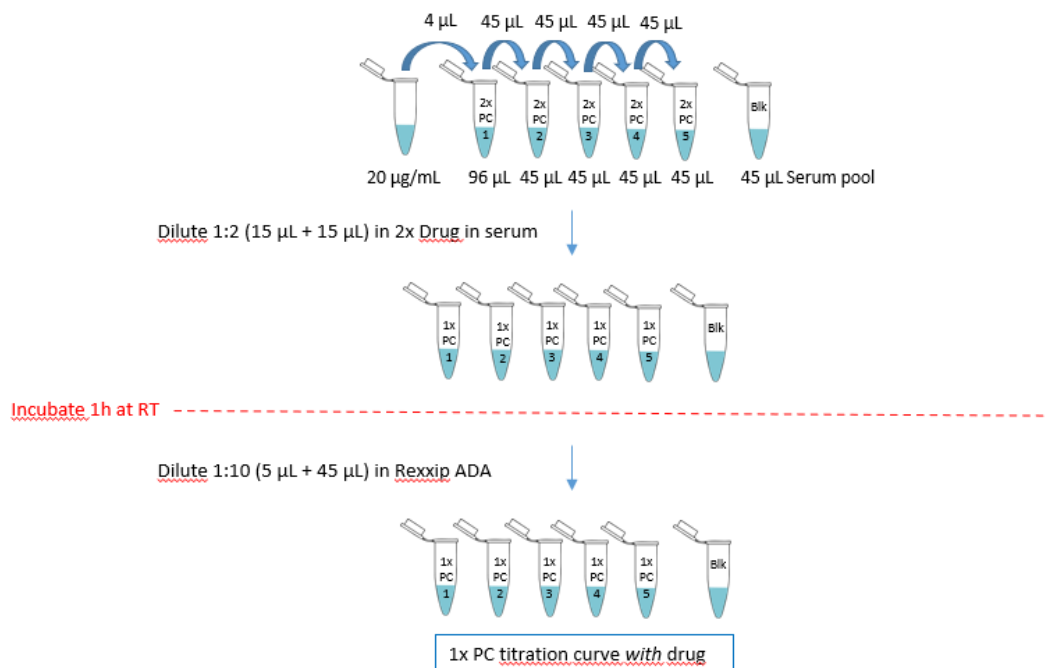

Figure 8. Schematic overview of steps 3-6, preparation of positive control titration curve with drug.
Anti-drug antibody positive controls (PC) – Illustrated in *Figure 8*